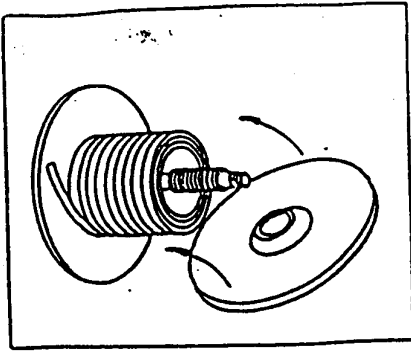

FIGURE 6
2. Mount a new coil on the lower flange. Place the upper flange by fixing the wing nut, and then remove the paper wrap from the new coil. (Fig.6)